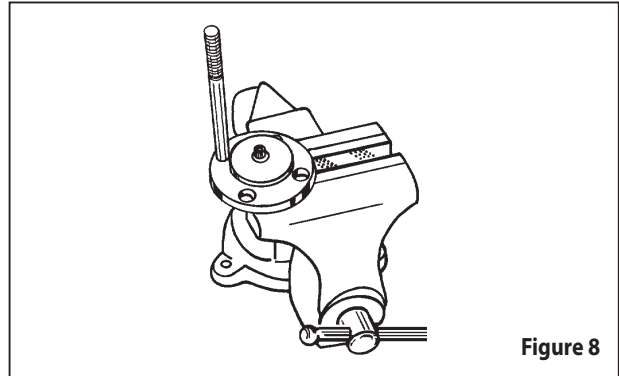

Figure 8
2. Locate the (15) plate over the (14) button.
3. Position the (16) black diaphragm on the (10) screw.
4. Position the (17) white colored diaphragm in the same manner.
5. Thread the (40) valve stem onto the small screw and snug hand tight.
6. Flip the assembly over and place in a vise, locating on the valve stem flats. Use one of the (2) long bolts to align the diaphragms and the plate. The bolt is to help maintain alignment of the diaphragms only at this point (see figure 8).
7. Hold the plate in this position and tighten the (10) small screw into the stem. NOTE: Torque to 65 - 75 in. lbs (7.3 - 8.5 Nm).
9. Place the (18) "O" ring into the base groove.
11. Place the (9) spring and (22) spring stop on the plate.
12. Assemble the (1) housing to the (48) base, aligning the four bolt holes.
13. Retain the housing using four (3) lockwashers and four (2) long bolts. NOTE: Tighten alternately until snug, then torque to 20 - 25 ft lbs (27.1 - 33.9 Nm).